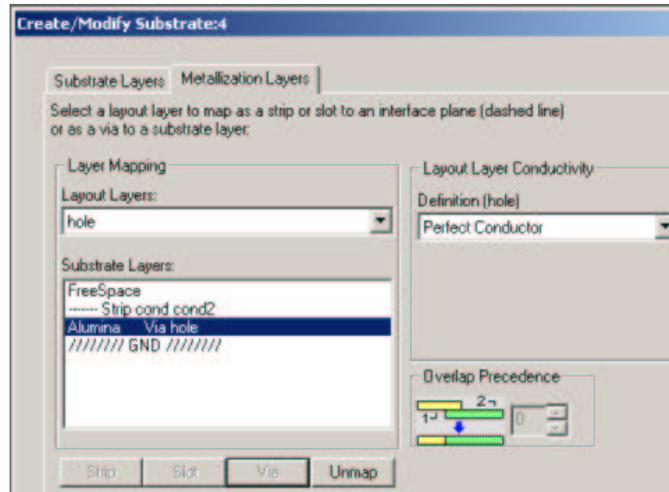

Figure 8: Modified substrate menu
- 1) First select **Momentum** à **Substrate** à **Create/Modify** then hit the **Metallization Layers** tab. Go to “-----Strip cond” under the *Substrate Layers* menu, choose **cond2** (or whatever layers you used for the top and bottom), and click the **Strip** button. Now go to “Alumina” under the same menu, choose **hole** (or whatever layer you used for the vias), and click the **Via** button. The menu should now look similar to figure 8.